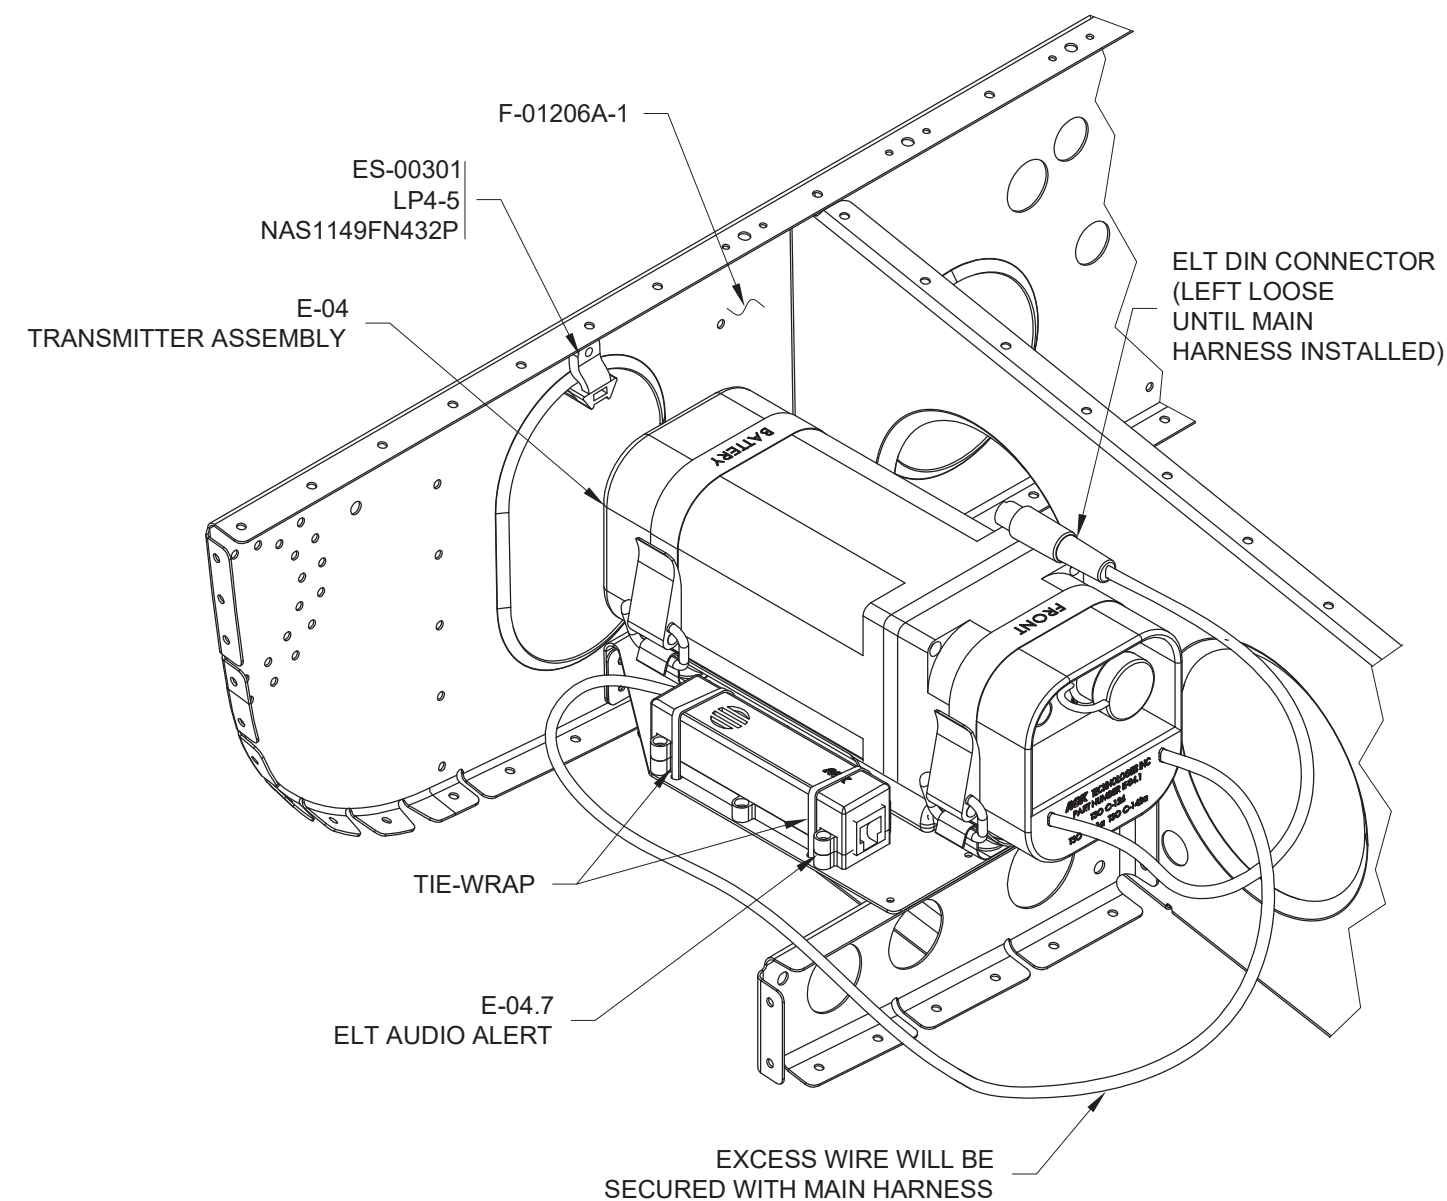

FIGURE 2: INSTALLING THE ELT
Step 3: Install and latch the E-04 Transmitter Assembly into the E-04.4 ELT mounting tray. See Figure 2.
Step 4: Tie-wrap the E-04.7 to the F-12107A as shown in Figure 2. The loose wires will be secured when installing the main harness.
Step 5: Rivet the ES-00301 onto the F-01206A-1 as shown in Figure 2.